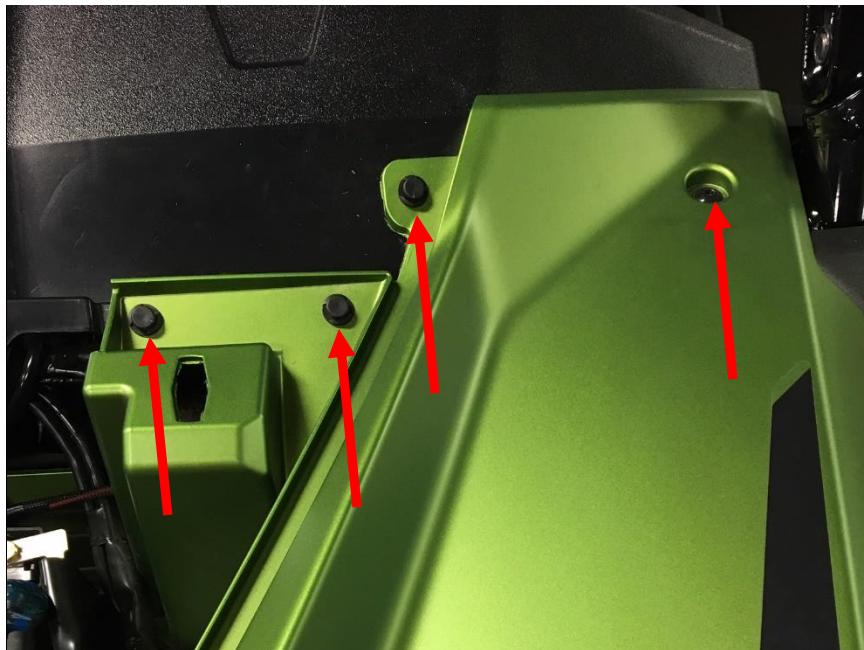

Figure 11: Remove the Torx screw and plastic rivets to run the chassis harness under the panel.
9. Remove the right Torx screw and the 3 plastic rivets to route the wiring under the plastic panel. The plastic rivets are released by first prying the center head up, then pulling the entire rivet out. See Figure 11.